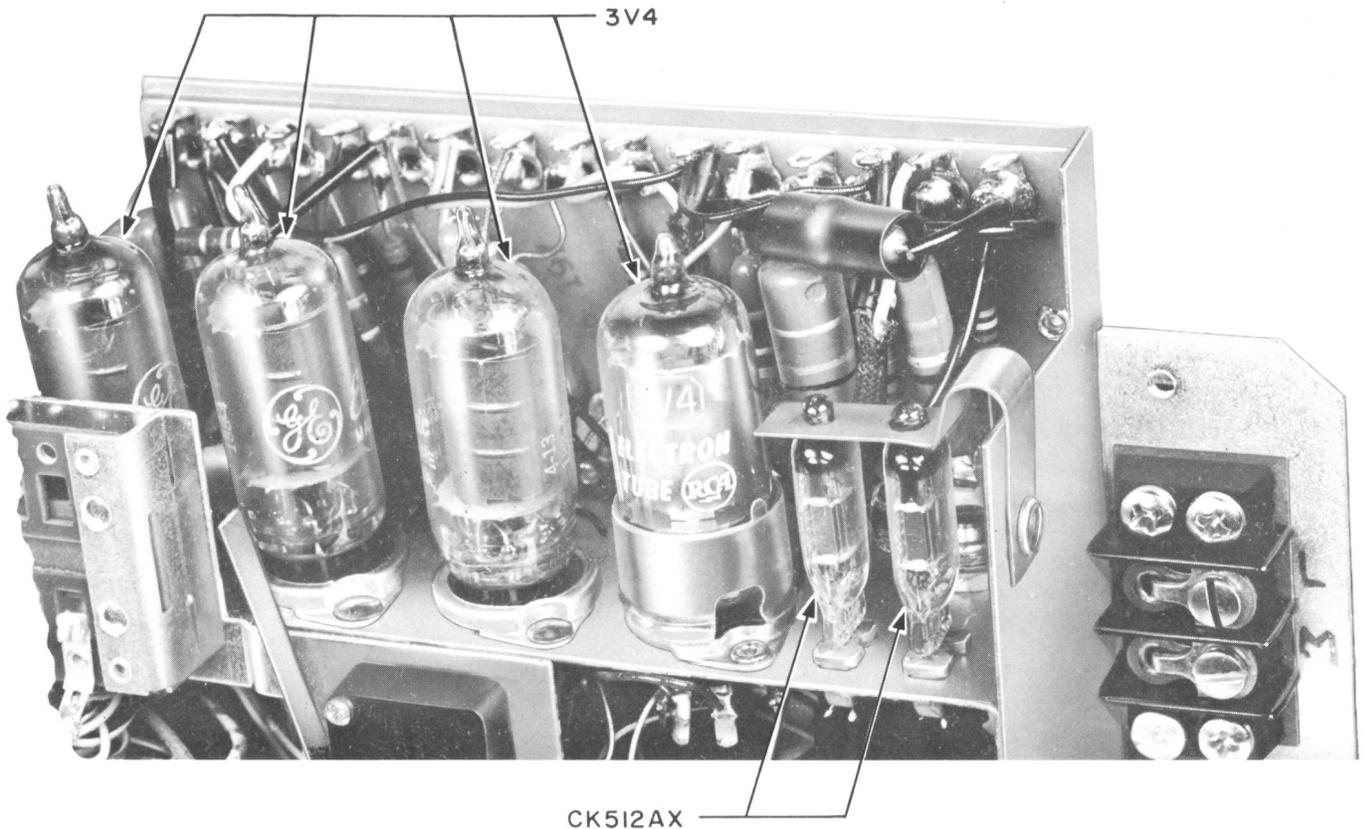

Fig. 1 — Electron Tube, Locations
3.11 If trouble is suspected in an amplifier circuit which uses two CK512AX and four 3V4 electron tubes, the condition of tubes cannot be determined by visual inspection. Substitute individual tubes until defective tube is located (see Fig. 1). If replacing tubes does not clear trouble in amplifier, replace answering set.